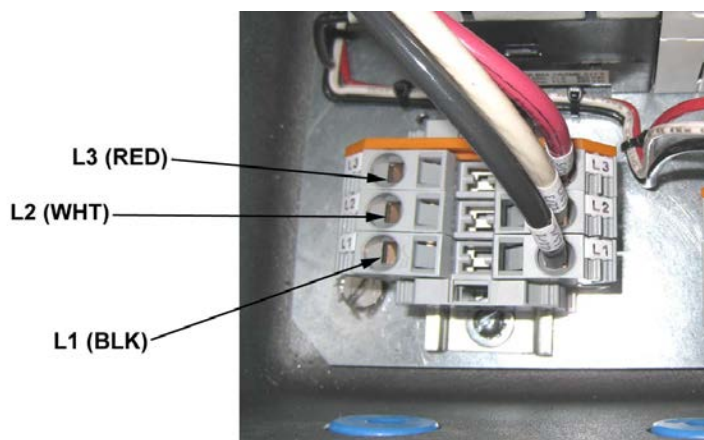

Figure 3-4 Terminal Block Electrical Connections - Derrick Control Panel
4. Connect three-phase power leads inside the control panel (Figure 3-4), or as required for customer-supplied starter box or other supply source.